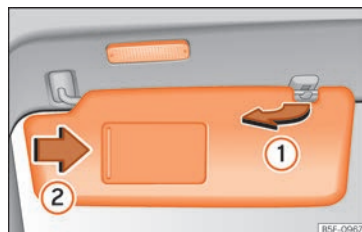

Fig. 126 Sun visor
- The sun visor can be pulled out of its mounting and turned towards the door » Fig. 126 ①.